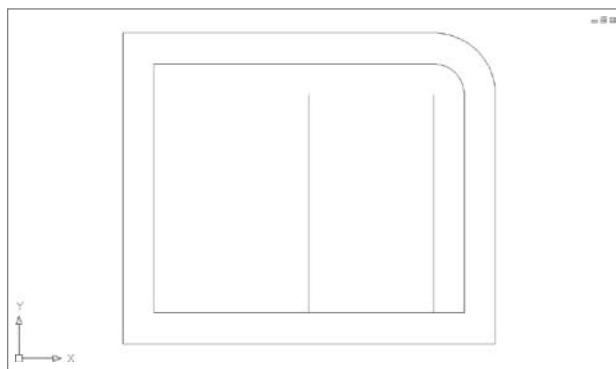

FIGURE 2.29 Offsetting the second line of the opening
5. Click the new line, and then pick a point to the left. Press ↵ to end the Offset command (see Figure 2.29).